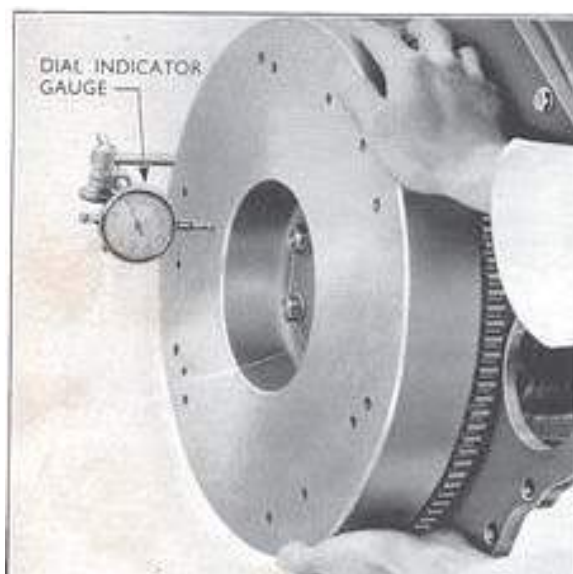

Fig. 18
4. It is essential that the flywheel runs true, as dirt, etc., between the mating flange faces could cause it to run out of balance. The "run-out" of the flywheel should be checked with a dial indicator gauge (see Fig. 18) and the total indicator reading obtained should not exceed the figure laid down in the Specification Section on page 22.